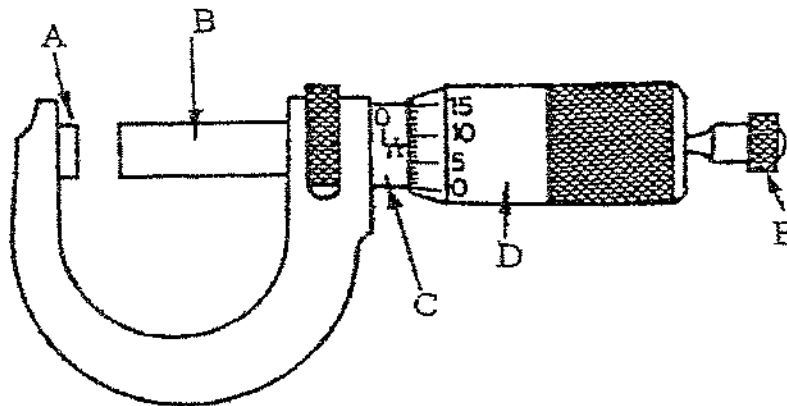

FIGURE 1
2.2 Label the components of the micrometer as shown in FIGURE 1 by writing only the answers next to the letters (A–E) in the ANSWER BOOK.